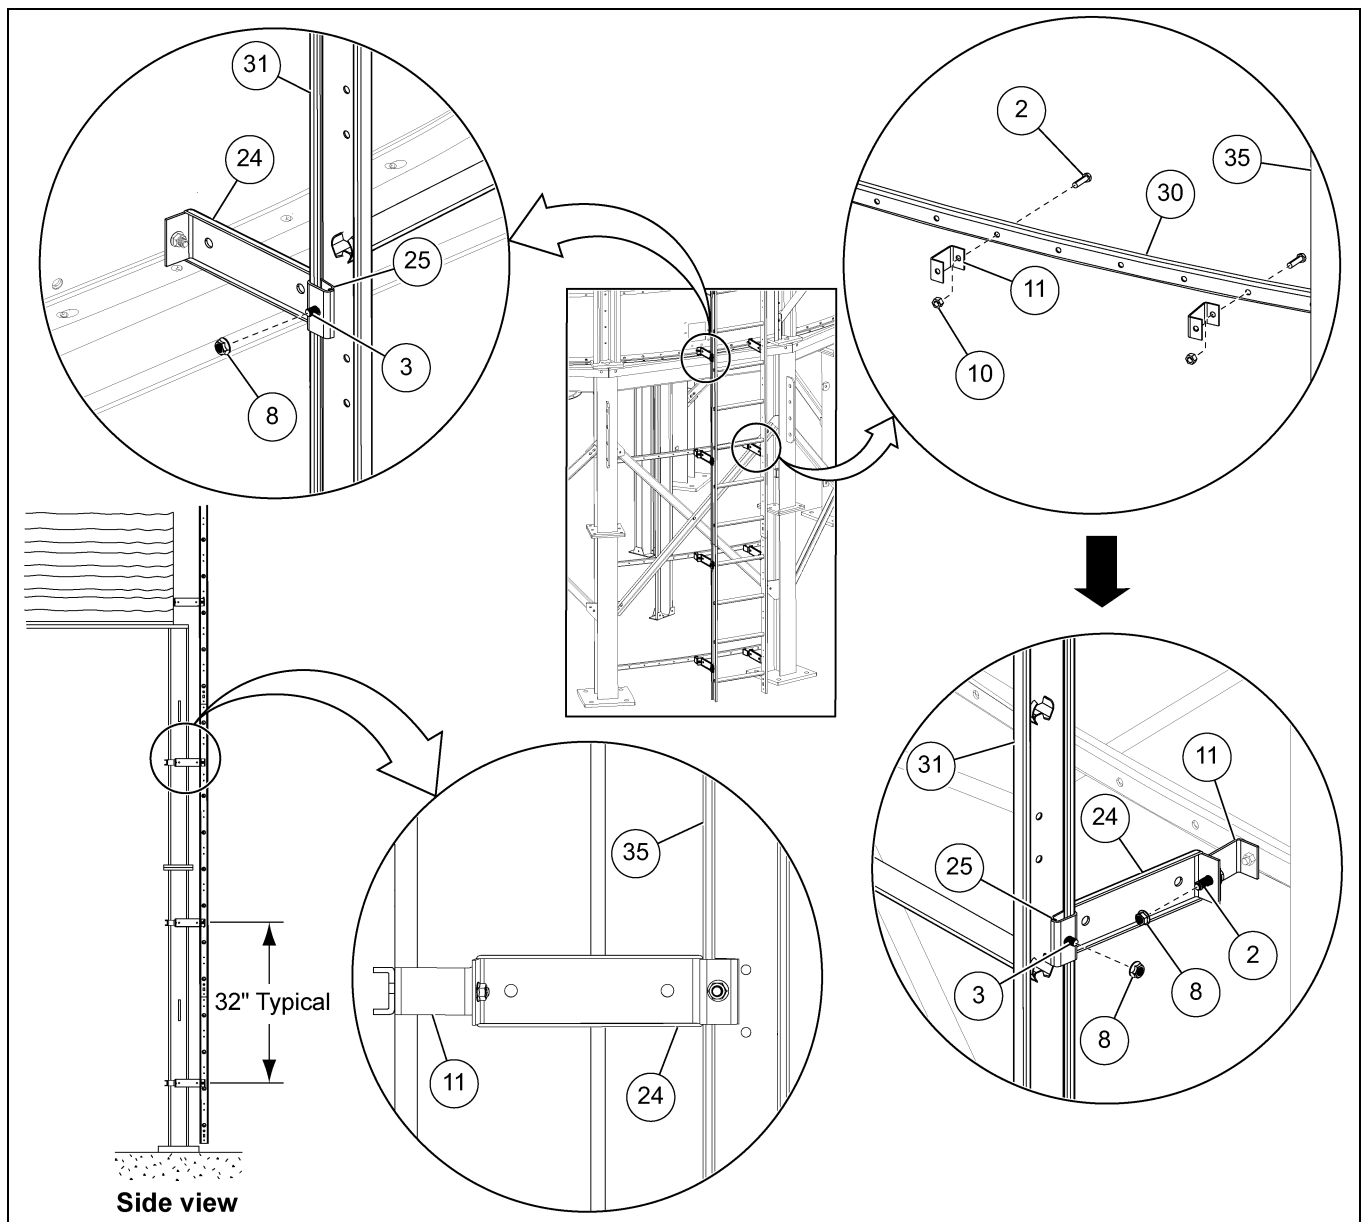

Figure 7H Installing the Ladder at the Base
1. Measure 32" from the last stand-off bracket at the base sheet and install the first support channel (30) to the support column (35).
**NOTE:** Weld the support channel (30) to the support column (35) or field drill a 3/8" hole in the support column (35) and install the support channel (30) using 5/16" x 1-1/4" bolts (6) and 5/16" nuts (10).
2. Similarly install the remaining support channels (30). Check for the ladder position and install two ladder brackets (11) to each of the support channel (30) using 5/16" x 1" flange bolts (2) and 5/16" nuts (10).
3. Install the ladder stand-off brackets (24) to each of the ladder brackets (11) using 5/16" x 1" flange bolts (2) and 5/16" flange nuts (8).
4. Slide the ladder wedge (25) along the ladder rail (31) and install it to the stand-off bracket (24) using 5/16" x 1" carriage bolts (3) and 5/16" flange nuts (8). (See Figure 7H.)